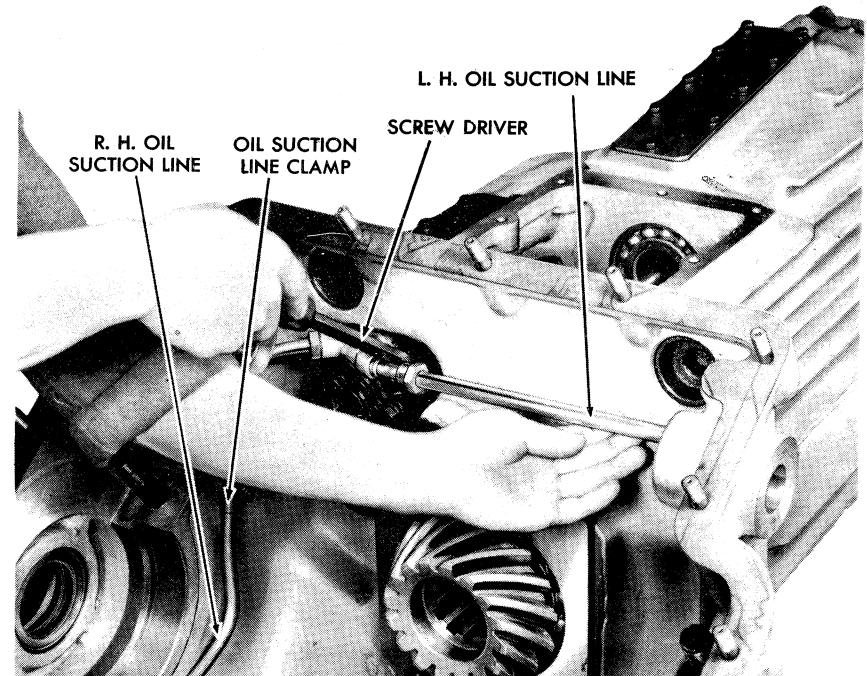

FIGURE 18—Prying oil lines away for oil pump removal.
(5) Remove oil pump (figs. 18, 19, 36 and 44).